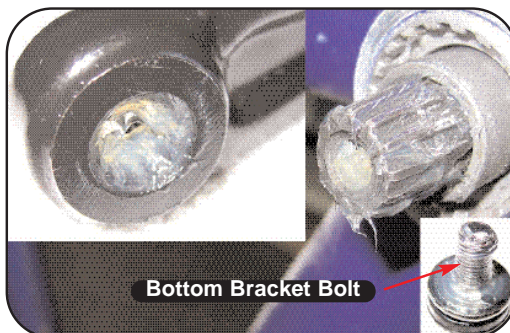

FIGURE 3: Apply grease
STEP 2: Thoroughly grease all contact surfaces on the crankarm, bottom bracket spindle (splines), and crank bolt as shown in Figure 3.